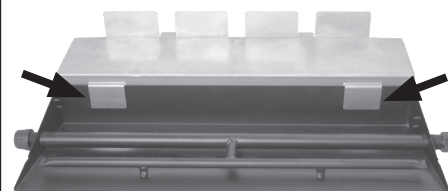

Fig. 1-1 Hook panel tabs to back of burner pan
1. Hook the flame enhancer panel's front tabs onto the back of the burner pan. Ensure the panel is centered to the burner. See Fig. 1-1.